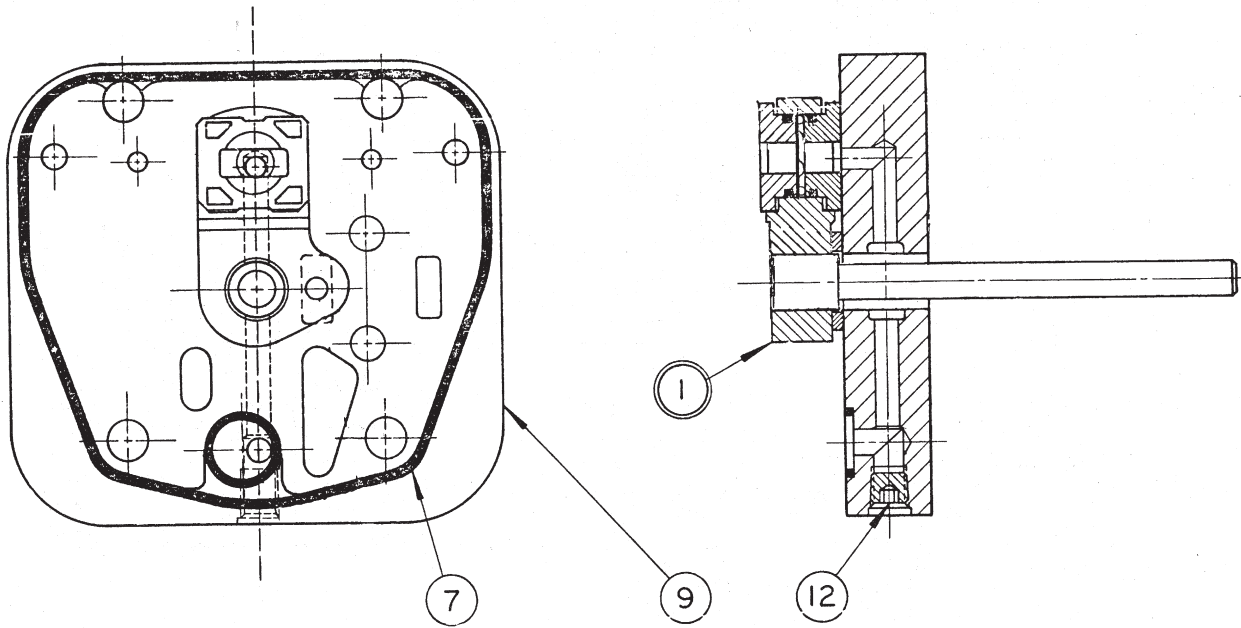

FIGURE 60-1
See Figure 60-1
8. Install spool (13) in stroker body. Press dowel (9) into clamp (8) to .500" (12.7mm) dimension shown. Install screw (4) in clamp. Slip clamp into body to engage groove in spool (13). Slip servo shaft assembly through the body and through the clamp.
10. Holding a flat plate against the ends of the spool bore, rotate the shaft clockwise and counterclockwise, causing spool (13) to travel from flush one side to flush the other side. Observe the position of the shear seal relative to the two 3/16 dowel holes in the cover. Position such that the overlap is equal on each side. Eliminate end play and torque screw (4) to 72 lbs-in. (8 Nm), locking the clamp to the shaft
11. Place washers (17) into end connection (2) Place spring (16) on washer. Insert screw (21) into spring guide (14) and thread into end connection. Thread screw until spring guide (14) extends .308" (7.82 mm). beyond mating surface of end conn. (2). Thread nut (18) hand tight.
12. Place washer (15) and O-ring (22) in position as shown.
13. Using screws (26) bolt end connection (2) onto body (25). Torque to 14 lbs-ft. (19 Nm).
14. Install O-ring (19) on plug (20) and insert into end connection.
16. Install cover (23) with cover screws (24) and O-ring (27). Torque screws to 14 lbs-ft. (19 Nm).
17. If control is to be tested on pump, install on pump control pad with gasket (7), ref Fig. 60-1, Nyltite washers (12), and screws (10). Torque to 30 lb. ft. (40.8 Nm).
For Figure 60-1 - Servo for hydraulic stroker